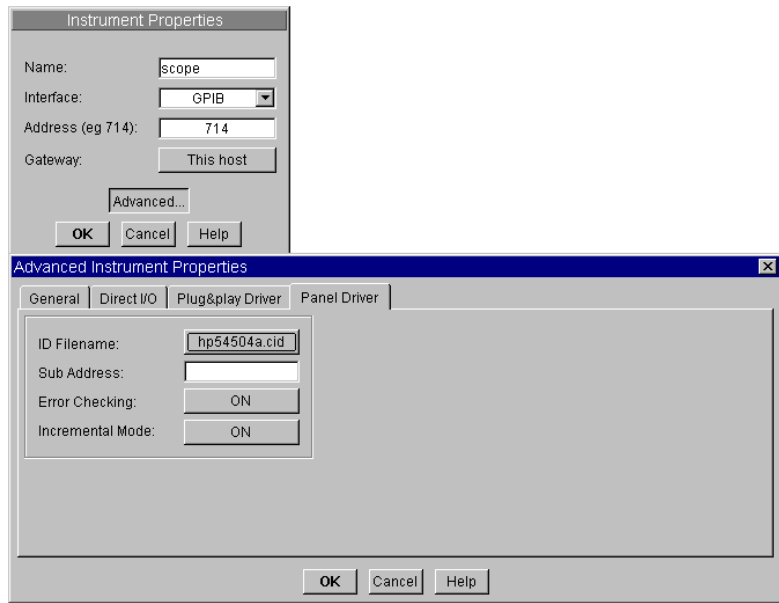

Figure 3-9. The Panel Driver Folder
4. Toggle `Live Mode` to `OFF`. Then click the `Panel Driver` folder, and the dialog box appears as shown in Figure 3-9.
6. Scroll down the list to highlight hp54504a.cid, then click Open. Figure 3-9 shows this instrument already selected. You can also double-click on a highlighted file to select it.